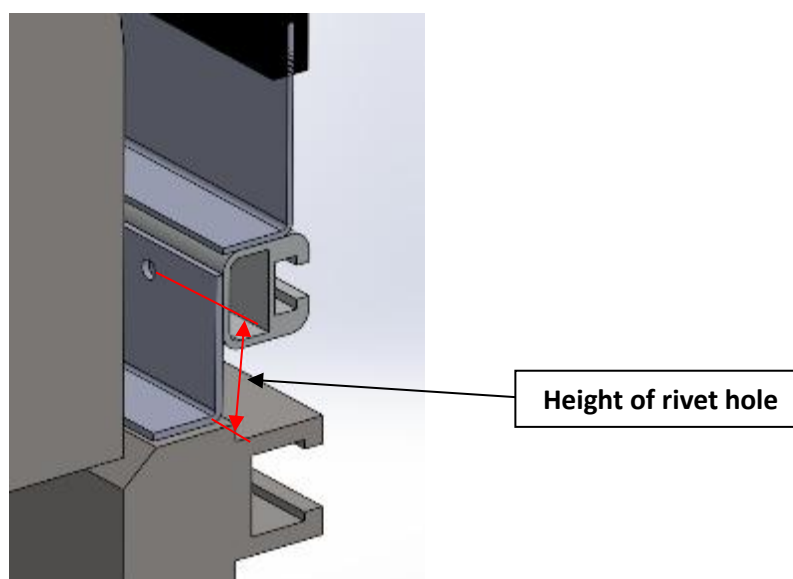

Fig 8: Isometric Section view of Canopy on Load Bin
Step 2: Mark off the height of the holes on the nut slot member. See Figure 8.